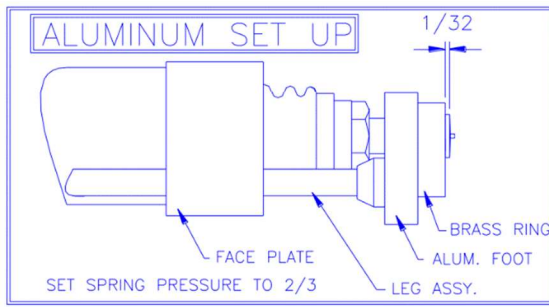

Fig. 5
- If you are welding aluminum, the gun setup should be as shown in **Fig. 5** First follow the instructions for **Fig. 4** Then fully insert the chuck into the gun and tighten the chuck-locking nut. Loosen the two legs by releasing the four set screws on the faceplate. Adjust the legs so that only the flange (approximately 1/32 inch or 0.79mm) of the fastener is visible beyond the brass ring. Tighten the four set screws on the legs. lastly, adjust the spring pressure using the slot screw at the rear of the gun. The pressure should be set to a positive number.